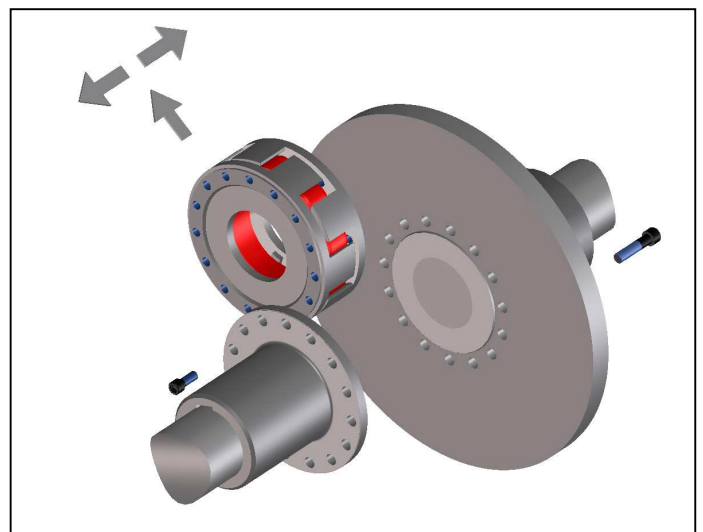

Fig. 7
- Place the claw rings with the buffer in their proper position as marked. When joining the parts pay attention that they do not get canted at the centering seat (Fig 7).